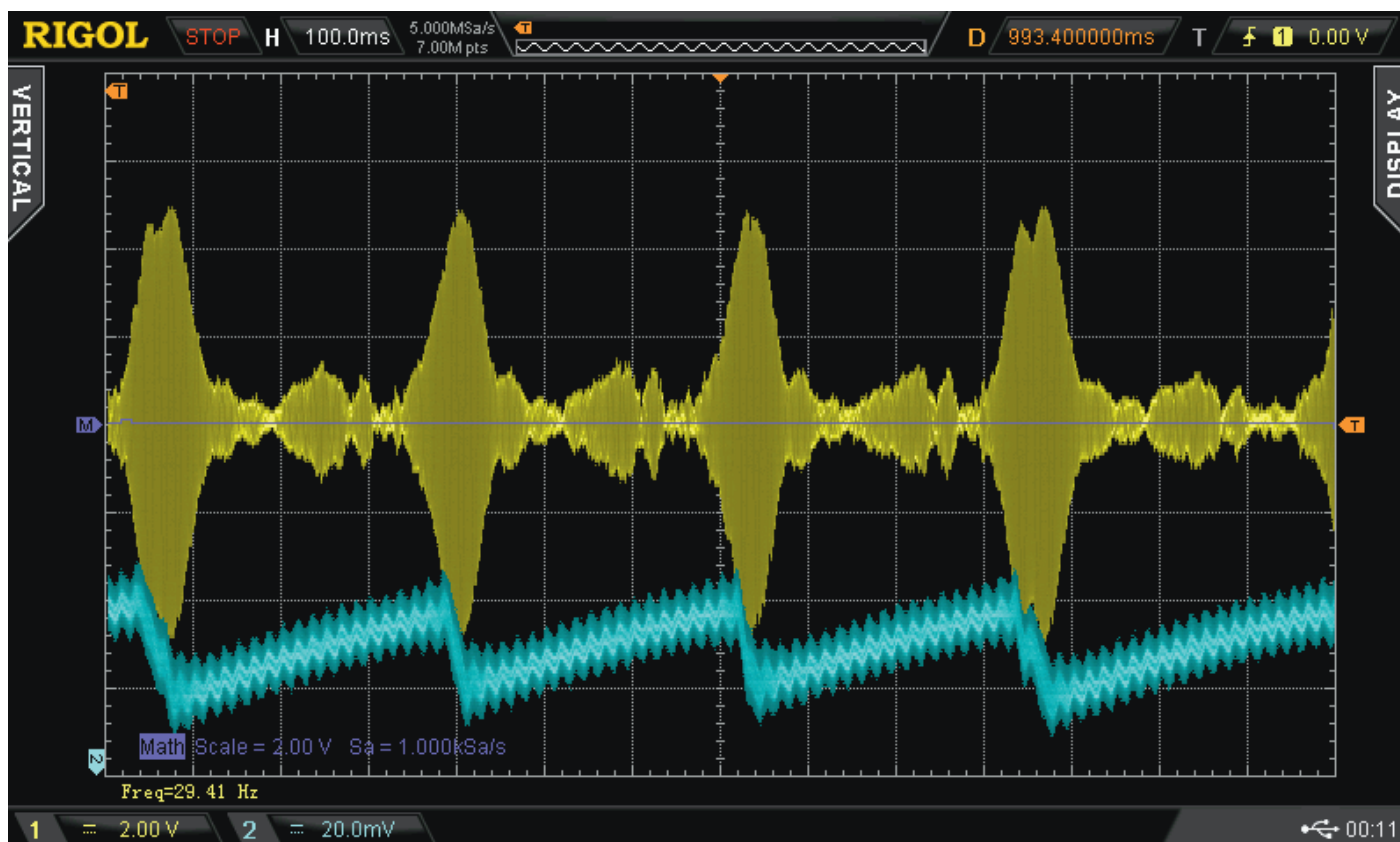

Figure 4 - Chirp Cycle Example: Equipment; 32S-3, 75S-3A, 312B-4 speaker, Shure 522 mic.
Connecting a deep memory digital oscilloscope to RX audio output at the anti-VOX port enabled direct measurement of F_c , T_{osc} , and S . Δf can be computed from S , T_{osc} , and T_{f1} . Figure 4 presents an example of well behaved chirping. The yellow trace is audio voltage. The blue trace is voltage at the negative S-meter terminal of my 75S-3A which provides a useful indication of AGC buss voltage activity without loading the buss. Decreasing voltage indicates decreasing RX gain. Note how the main T_{osc} bursts and chirp cycles are framed by AGC cycles. Each tall burst has a low amplitude tail. This is caused by rising AGC voltage that sustains oscillation until Δf gain reduction finally kills the feedback. Well behaved chirp envelopes are not the norm. Low amplitude spurious bursts like those in Figure 4 are just one simple example of fascinating and sometimes puzzling cycle details. Since AGC and Δf effectively limit oscillation amplitude, the amplifier remains linear so T_{osc} usually is a multi-tone signal to varying degrees. At times it seems as though there are stochastic variables influencing the behavior. My shack is a large acoustically "live" room. Moving the mic just an inch or two changes burst envelope and overall cycle detail. Therefore, I am confident that most of the variance is caused by reverberation and ambient noise. Nonetheless, in terms of audible signal characteristics, the ear perceives colorful and sometimes dissonant periodic chirps.
I analyzed about 30 recordings like Figure 4 using two different mics, three speaker to mic spacings in the range 6-24 inches, and several AG/MG combinations. With reference to equation (1), the data yielded K values between 0.6 and 2.8. By far, the predominant range was 1.4 to 2.6. The multi-tone nature of chirp bursts renders extraction of Δf from scope data challenging and rather uncertain. To validate the measurements I assembled an equivalent baseband system model with LTSpice but limited its fidelity with a maximum of three sound reflection paths ($n=4$, max) and a simple AGC time constant network consistent with 75S-3 receivers. The model also sends simulated speaker drive voltage to "sync.wav" audio files that can be played back for comparison with reality.